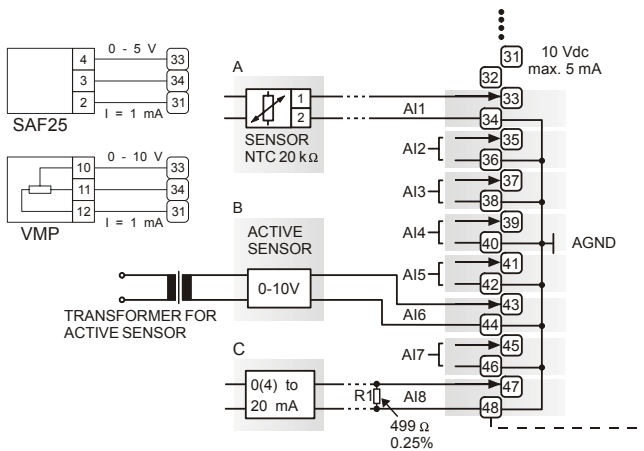

Fig. 19. Analog inputs, sensor connections
0 (4) to 20 mA (with an external resistor of $499 \Omega \pm 0.25\%$ [see Fig. 19])